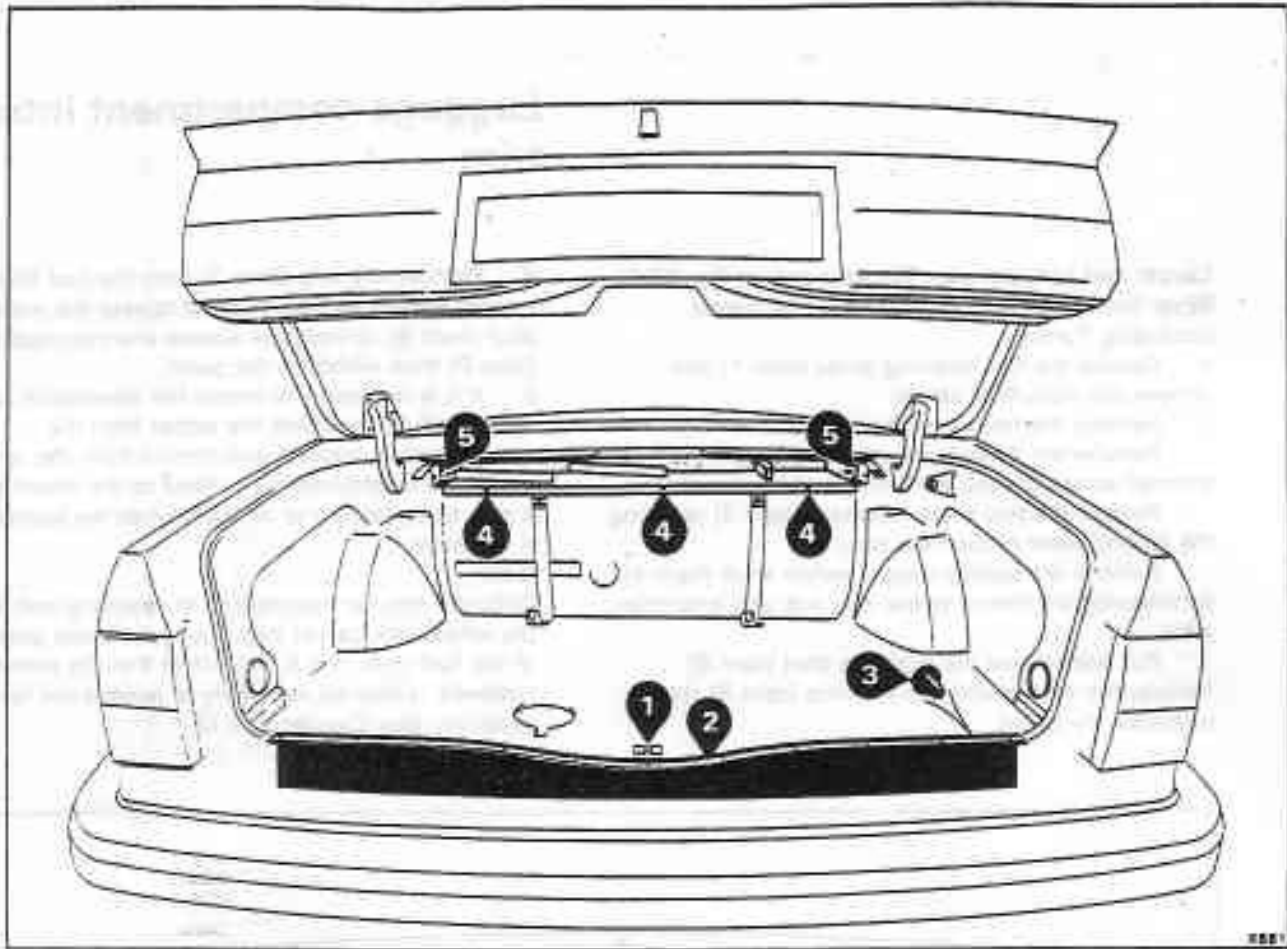

Fig. S9-2 Rear cover and tools stowage tray - Silver Spirit, Silver Spur, and Bentley Mulsanne (including Turbo)
6. If necessary, peel back and remove the carpet trim pieces from inside the stowage well (item 10).
Carefully scribe the position of the lock catch (see fig. S9-2, item 1) onto the mounting plate to ensure its correct location on assembly; remove the lock catch.
Carefully scribe the position of the lock catch (see fig. S9-2, item 1) onto the mounting plate to ensure